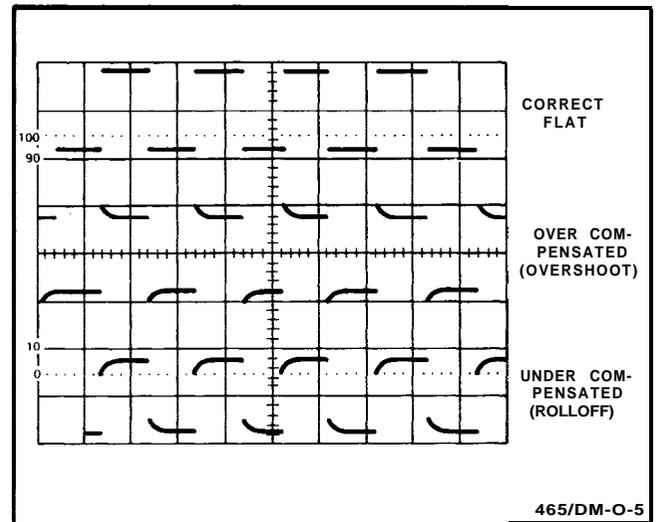

Figure 10. Probe compensation.
7. Check the waveform presentation for overshoot and rolloff (see Figure 10). If necessary, adjust the probe compensation for flat tops on the waveforms. Refer to the instructions supplied with the probe for details of compensation adjustment.